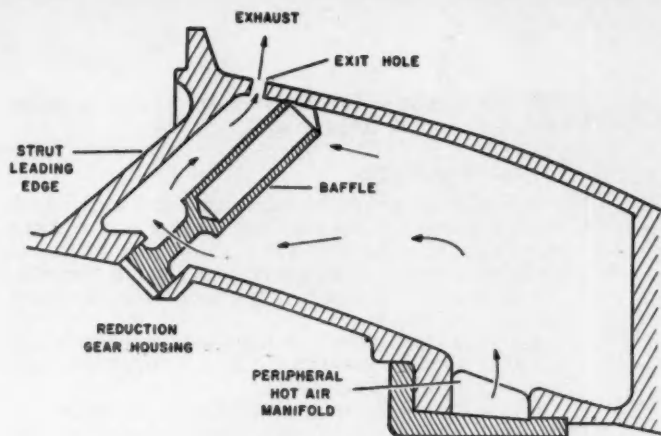

Fig. 5 — (above) T53-L-1 hot air route in lateral strut. (right) T53-L-3 hot air route. Air is supplied through a manifold on outside of inlet housing.
- Struts are hollow and filled with hot air or hot oil. Fig. 5 shows the T53-L-1 and T53-L-3 systems, which function equally well.